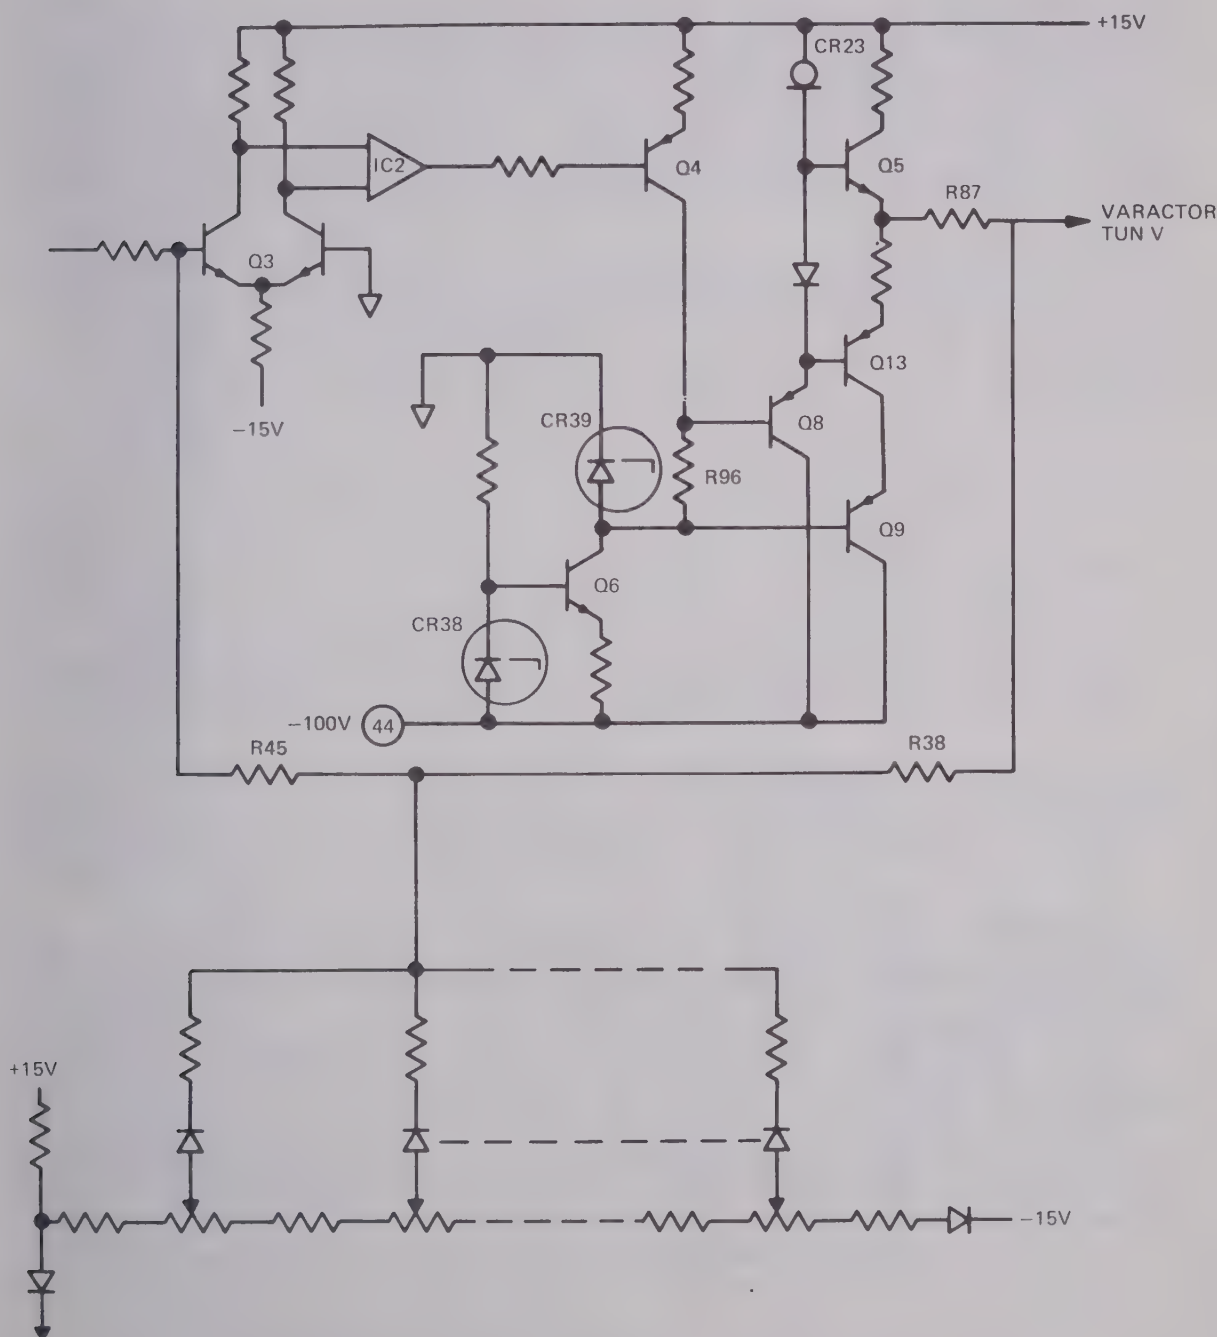

Fig. 9 Varactor tuning supply
26. This technique is expanded with the use of many diodes and can provide an essentially smooth curvature in the output voltage characteristic. A more detailed circuit of the tuning supply is shown in Fig. 9. A high voltage pre-regulator is used and consists of a constant current generator, Q6 and CR38, driving Zener diode CR39. Transistor Q9 is used as an emitter follower to supply the current requirements of the output stage, Q5. In the actual circuit, additional transistor stages Q4, Q13 and Q19 are used to provide current and voltage limiting where signal transients would otherwise cause undesirable non-linear distortions.